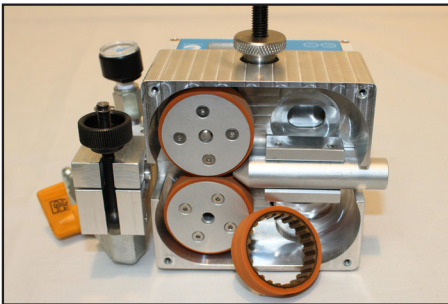

Figure 25. Remove and Replace belt
- c. Remove belt from GS150 roller (Figure 25).